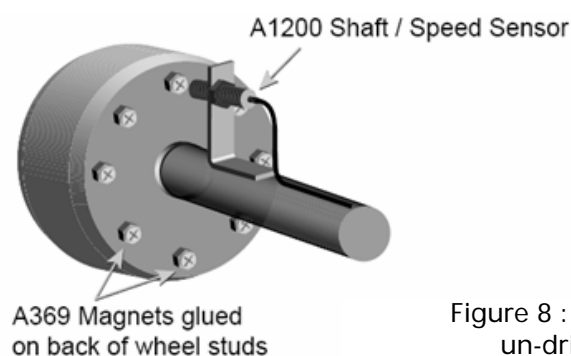

Figure 8 : Shaft/Speed Sensor on an un-driven wheel installation
1. The Shaft/Speed Sensor and Wheel Stud Magnets can be fitted to any un-driven ground wheel, for example: front wheel of tractor or wheel on trailing sprayer. The magnet activates the sensor as the wheel magnets sweep past. Refer to Figure 8.